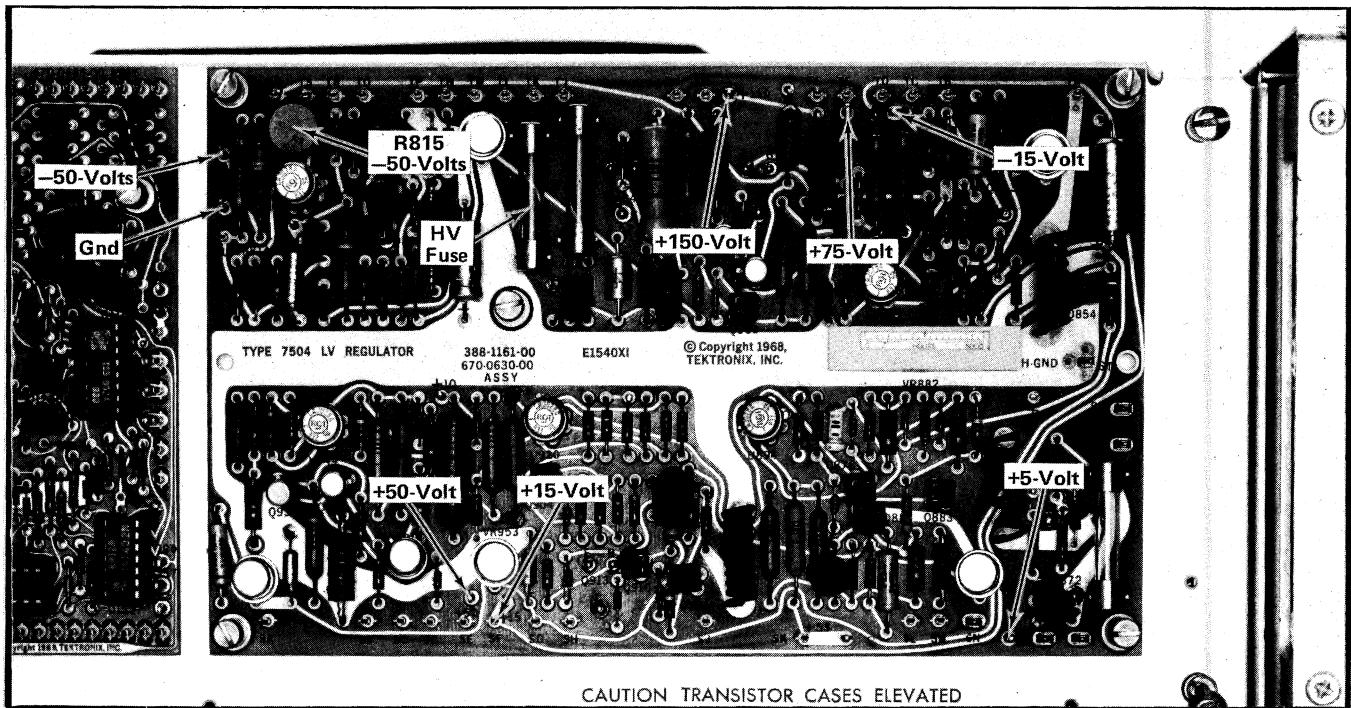

Fig. 5-2. Location of power supply test points and -50-Volt adjustment (LV Regulator board).
a. Connect the precision DC voltmeter from the -50-volt test point to the GND test point on the LV Regulator board (see Fig. 5-2).
c. ADJUST—-50 Volts adjustment R815 (see Fig. 5-2) for -50 volts.
a. Table 5-1 lists the power supplies in the instrument. Check each supply with the precision DC voltmeter for output voltage within the given tolerance. Power supply test points are shown in Fig. 5-2.
*Ripple measurement must be made at the Low Voltage Regulator board using the test points provided with reference to the GND test points (see Fig. 5-2).*
- h. Remove the high voltage fuse (see Fig. 5-2).